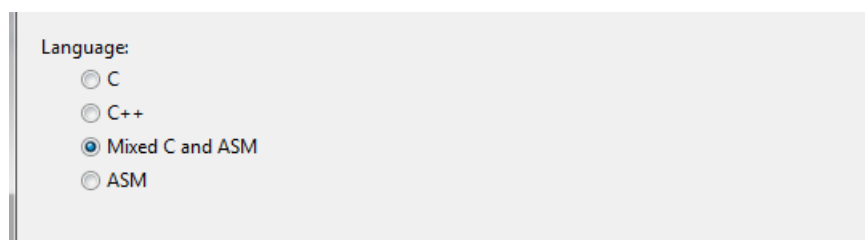

Figure 1-4. Language choice
7. From the options given, select the Simple Mixed Assembly and C language, and click Finish. See Figure 1-4.